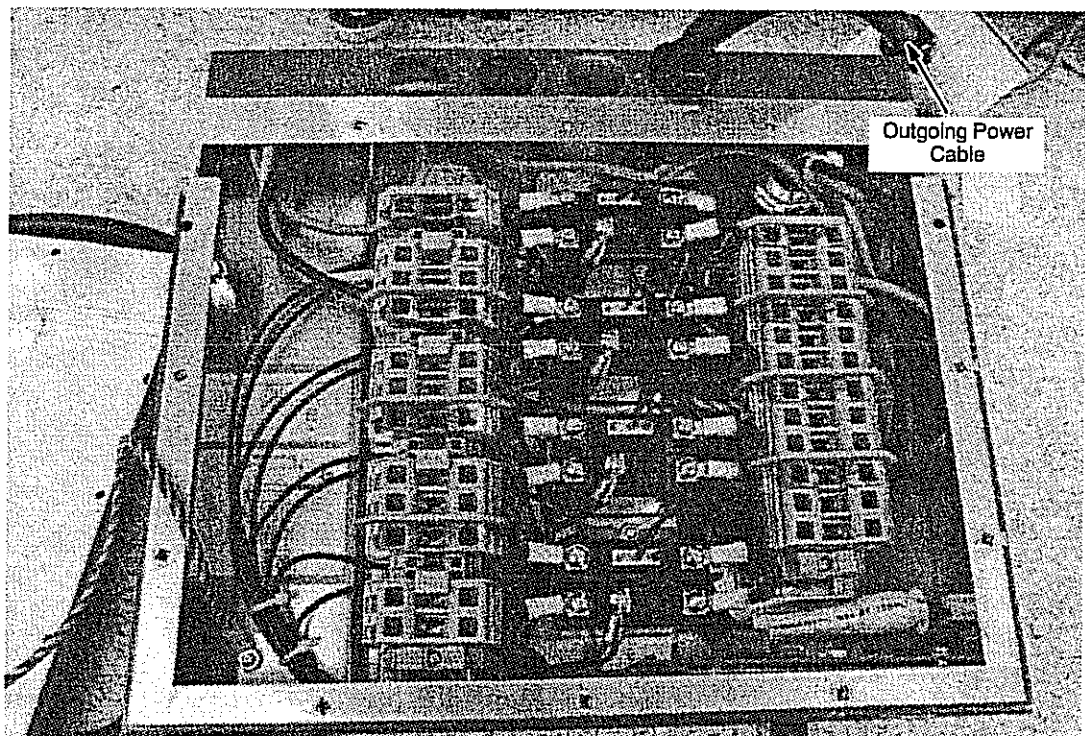

Figure 7-64. Outgoing Power Cable
14. To disconnect the outgoing power cable (part number 90086301), press down firmly with a flat-bladed screwdriver and pull the line (black), neutral (white) and ground (green) wires from the incoming power module terminal block. Refer to Figure 7-64.
15. To disconnect the outgoing power cable, press down firmly with a flat-bladed screwdriver and pull the L1 (black), L2 (white), and ground (green) wires from the incoming power module terminal block. Refer to Figure 7-64.